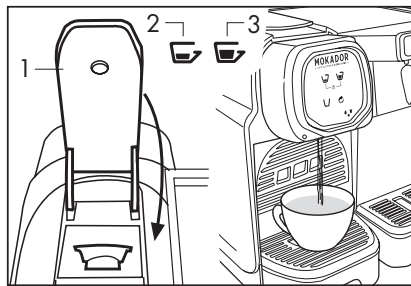

Fig. 10
- Fully close the lever (1), press a delivery symbol (2-3) according to your taste, and press it again to stop the delivery when the desired amount of coffee or drink has been reached **(Fig. 10)**. In the event of closing difficulties, fully open the lever and then close it again.
- To extract the capsule, slowly lift the lever (1). If the capsule is not ejected, repeat the operation or press the delivery symbol (2-3) while simultaneously lifting the lever (1).